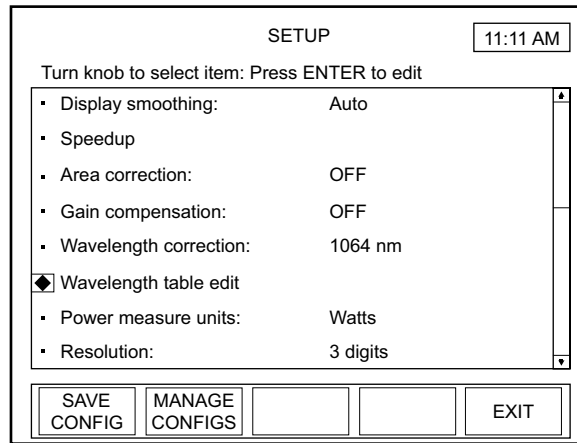

Figure 4-45. SETUP: Wavelength Table Edit
1. On the main SETUP screen, turn the Selection knob to move the diamond indicator to Wavelength Table Edit (Figure 4-45).